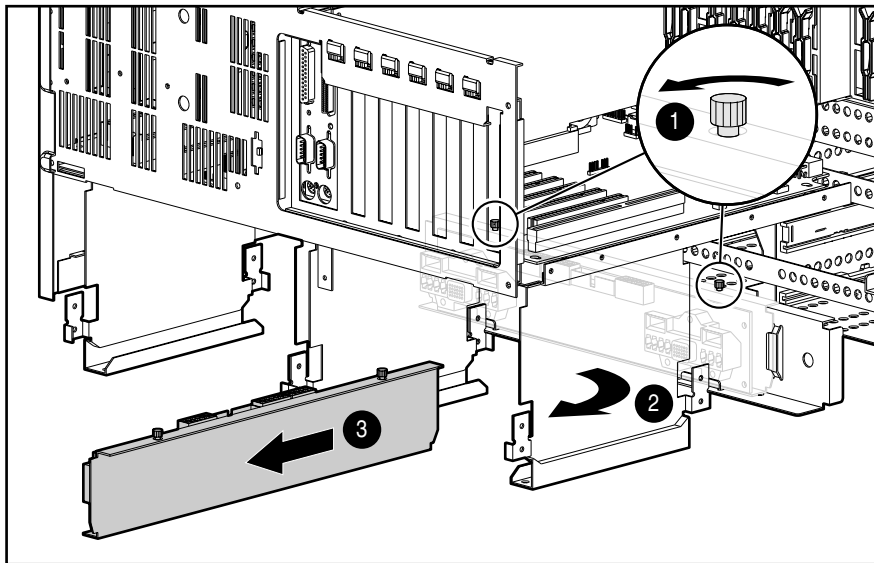

Figure 2-34. Removing the power backplane board
**NOTE:** Part of the chassis in Figure 2-34 was removed for clarity.